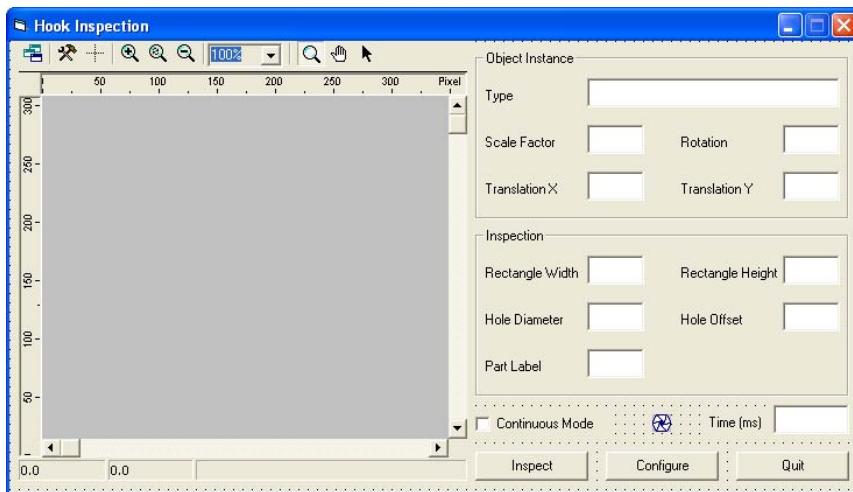

Figure 71 Visual C++ Dialog for Tutorial 5
1. On your application dialog, add one edit box. Name it **IDC_EDIT_LABEL** and add an appropriate label. Set everything to appear as illustrated in Figure 71.